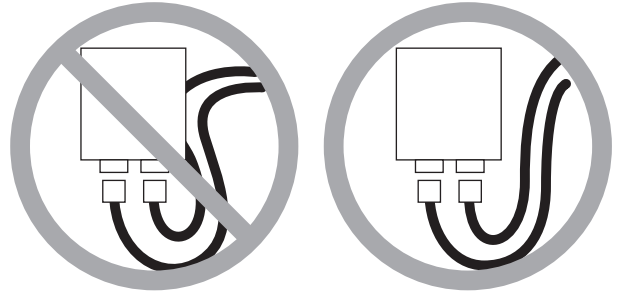

Figure 3
4. Position the units in place. Make sure wiring harness is free and not pinched under unit. See **FIGURE 3**